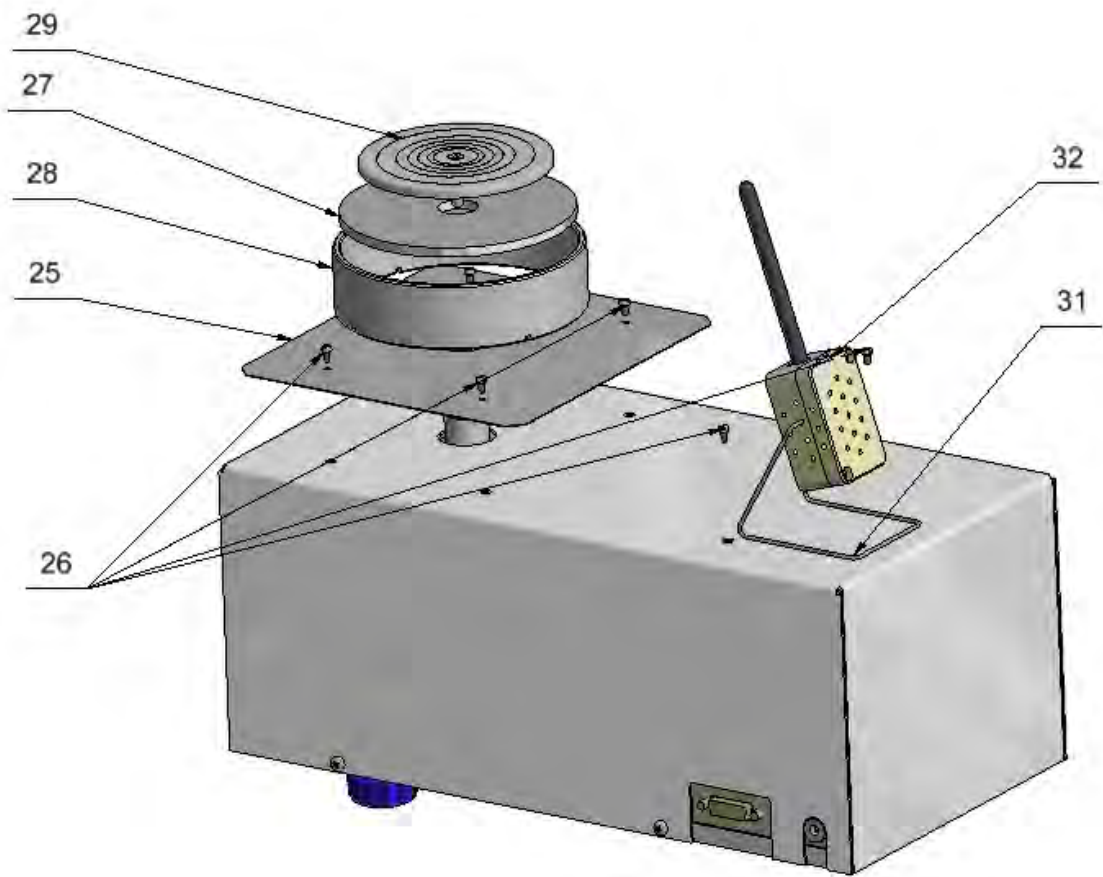

Fig.6
Optionally install THB sensor (32) by inserting it into sensor holder (31). (Fig.6)